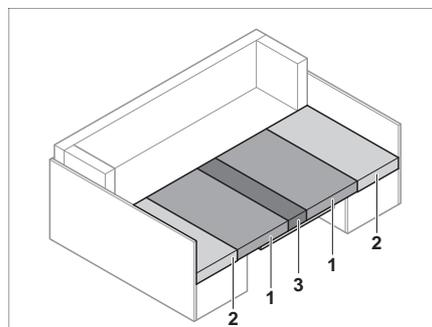

Fig. 78 After conversion
- Pull the seat cushions (Fig. 78,1) into the centre.
- Insert the back cushions (Fig. 78,2) between the seat cushions (Fig. 78,1) and the exterior wall.
- Insert the additional cushion (Fig. 78,3) onto the table between the seat cushions (Fig. 78,1).